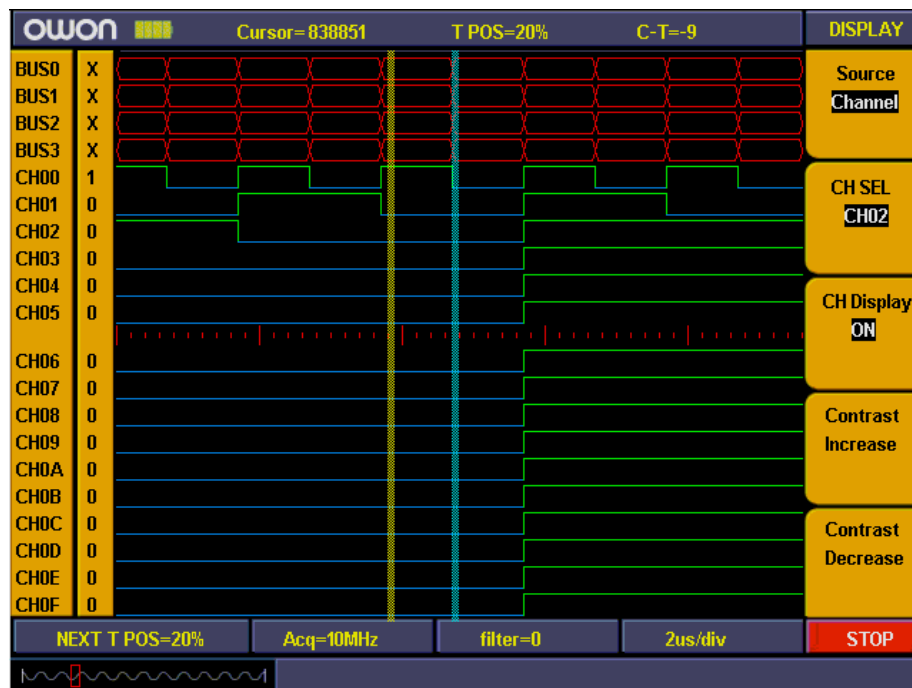

Fig.4-13
- 4、 Press "F3" and set the signal sources as "ON". Repeat operation of steps 3.4 and set CH01, CH02 as "ON" and CH03-CH0F as "OFF". Refer to Fig.4-13.